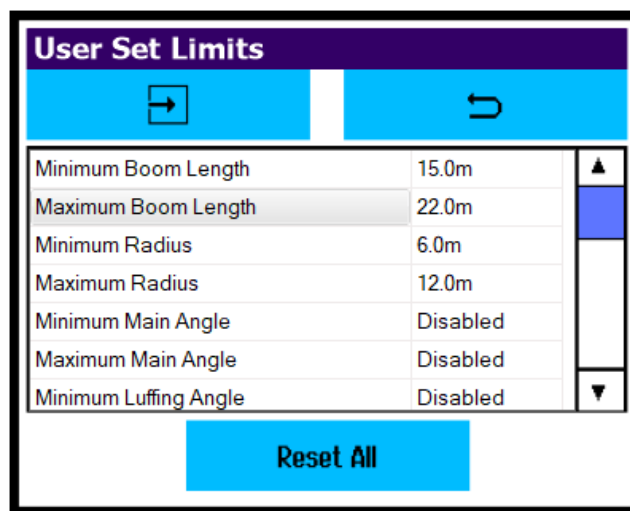

Figure 17
## WORKING OPERATIONS – FIGURE 17
7. 8:05:17 3/9/2018 **User Limit Setup** – Press the screen at the bottom where the date & time or error code is displayed to access the User Limit Setup screen (Figure 17). Highlight the required limit to be set by pressing on the description, press the Select button to access the keypad and type in the limit that is required. Once all the limits have been set press the Back button to return to the working screen. To disable the limit, highlight the limit by pressing on the description and press the **Disable Selected** button, **Disabled** will then be displayed next to the description and the limit will now be disabled. To disable all limits, press the **Reset All** button.